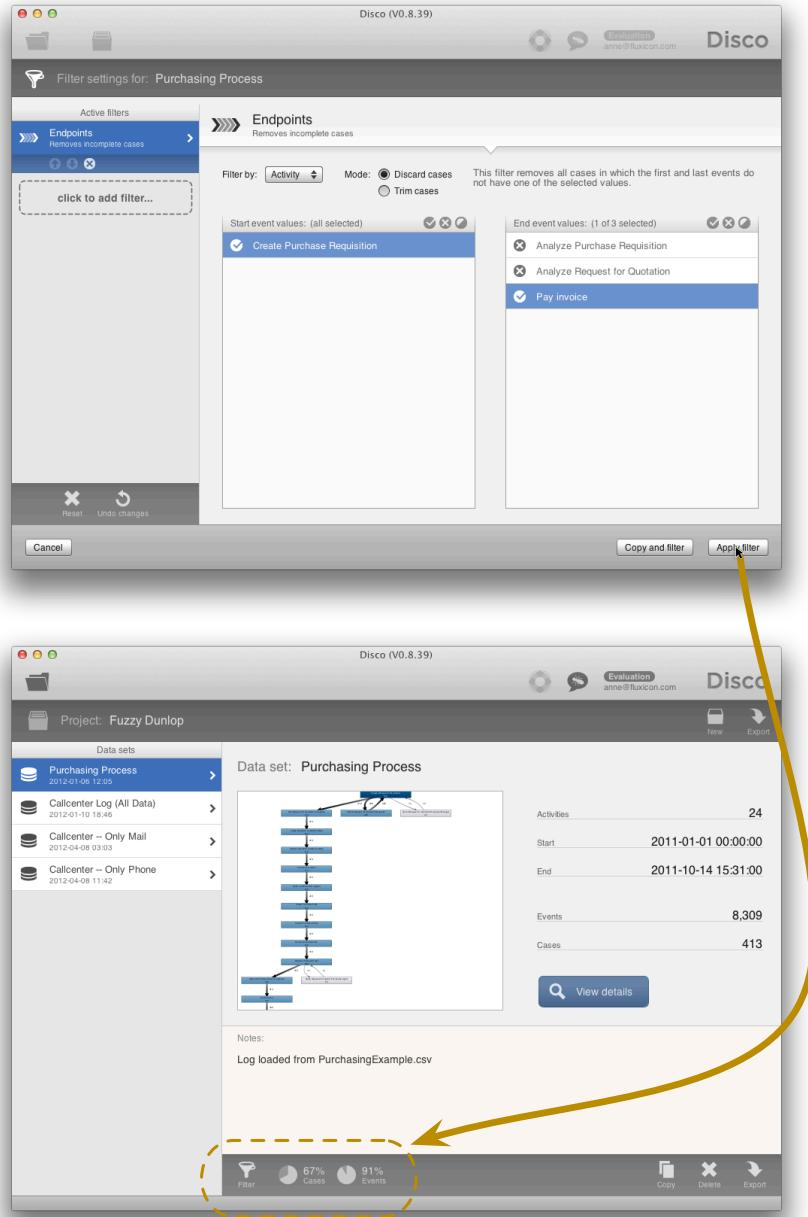

Fig. 6.14. Example Scenario – Step 1: Add filter to remove incomplete cases.
- To remove these incomplete cases, you use the Endpoint filter (Section 5.2.4) and keep only those cases that end with the regular ‘Pay invoice’ end activity. The result is a filtered data set with 413 completed cases out of the initial 608 cases (67%) as shown in Figure 6.14.